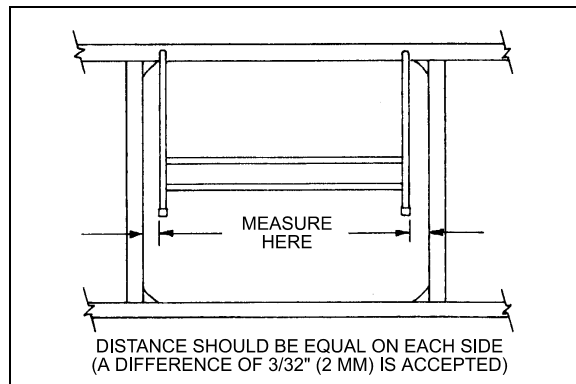

FIGURE 59: PANTOGRAPH DOOR ADJUSTMENT 18063
5. When the door is straight, remove the 2x4's and check door operation and fit. A difference of $3/32$ " (2mm) between both sides is accepted (Fig. 59).